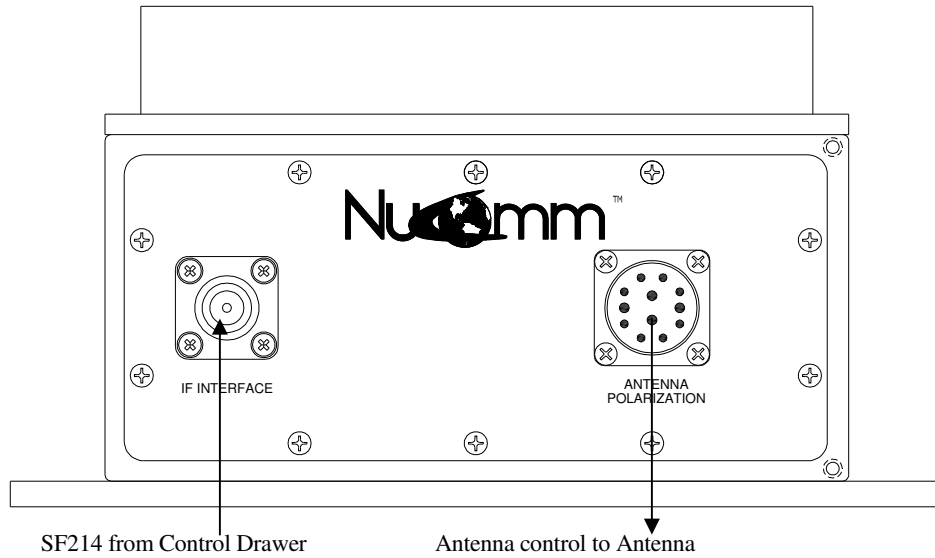

Figure 3-11: RF Head Connections (IF & Antenna Polarization)
3.4.2 Make cable connections to RF Head and antenna(s). Refer to figures 3.11 & 3.12.